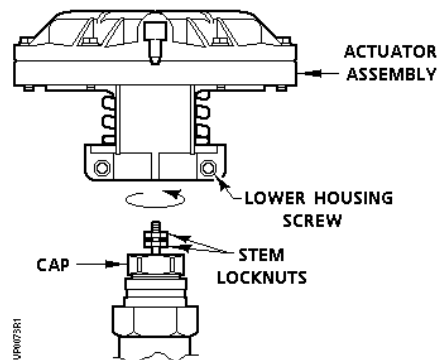

Figure 6. Actuator Assembly Removal.
3. Unscrew actuator assembly from stem and remove it, as shown in Figure 6.